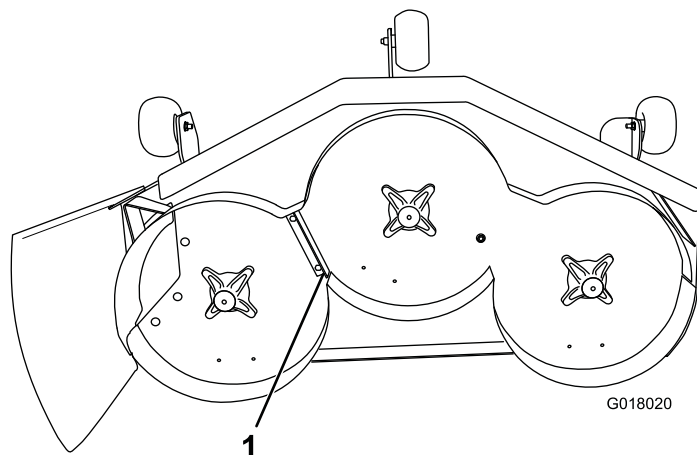

Figure 4
15. Install the Recycler bracket with 2 self-tapping screws (5/16 x 3/4 inch) at the location shown in Figure 4.